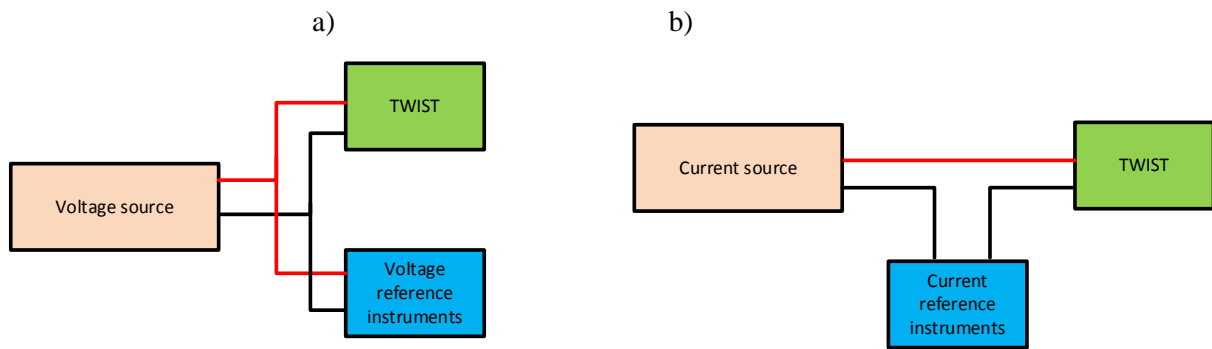

FIGURE 2 CALIBRATION INSTRUMENT CONNECTIONS: A) FOR VOLTAGE CALIBRATION. B) FOR CURRENT CALIBRATION
- 1 Connect the instruments as indicated in Figure 2. In the case of voltage calibration, the TWIST block represents the voltage channel of the PCB board connected to the Picolog data-logger. Instead, the TWIST block is composed by the high precision shunt sensor and the current channel in the PCB board connected to the Picolog data-logger, in the case of current calibration.